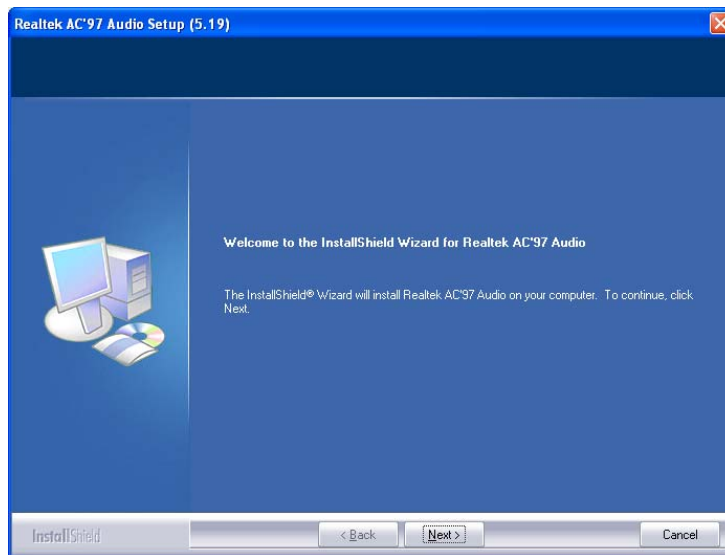

Figure 6-26: AC'97 Driver Installation Welcome Screen
Step 3: The AC'97 Driver Installation screen in Figure 6-26 appears.